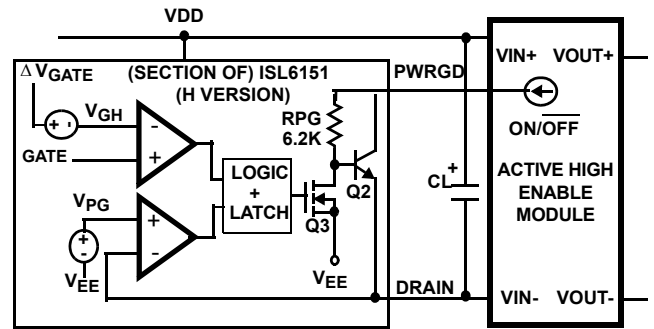

FIGURE 33. ACTIVE HIGH ENABLE MODULE
**ISL6151** (H version; Figure 33): Under normal conditions ( $\text{DRAIN voltage} - V_{EE} < V_{PG}$ , and  $\Delta V_{\text{GATE}} - V_{\text{GATE}} < V_{\text{GH}}$ ), the Q3 DMOS will be on, shorting the bottom of the internal resistor to  $V_{EE}$ , and turning Q2 off. If the pull-up current from the external module is high enough, the voltage drop across the 6.2kΩ resistor will look like a logic high (relative to DRAIN). Note that the module is only referenced to DRAIN, not  $V_{EE}$  (but under normal conditions, the FET is on, and the DRAIN and  $V_{EE}$  are almost the same voltage).
The Enable input often has a pull-up resistor or current source, or equivalent built in; care must be taken in the ISL6151 (H version) output that the given current will create a high enough input voltage (remember that current through the RPG 6.2kΩ resistor generates the high voltage level; see Figure 33).